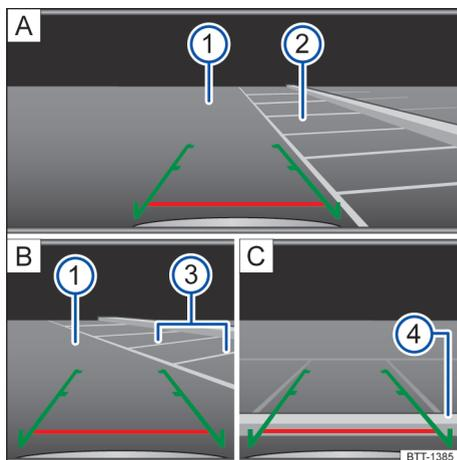

Fig. 92 Display of the radio or navigation system: enter the parking spot with the rear view camera (schematic display).
Key for → Fig. 92:
- Position the vehicle in front of the parking spot → Fig. 92 Ⓛ Ⓐ.